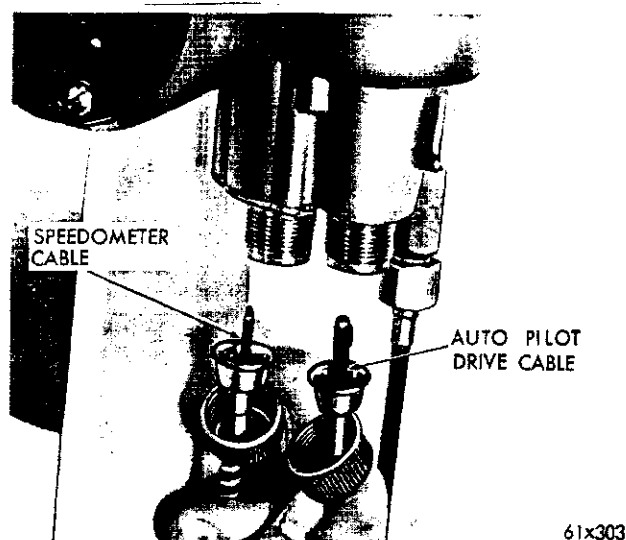

Fig. 56—Installing the Drive and Speedometer Cables
(1) Attach the drive mechanism to the mounting bracket.
(2) Connect the accelerator link ball joint to the armature lever. Adjust the accelerator linkage as described under "Linkage Adjustments".
(3) Install the ball end of the control cable in the ball socket on the bottom of the drive mechanism. Install the dust shield. Adjust the control cable.
(4) Connect the drive cable and the speedometer cable (Fig. 56).
(5) Connect the terminal plug.